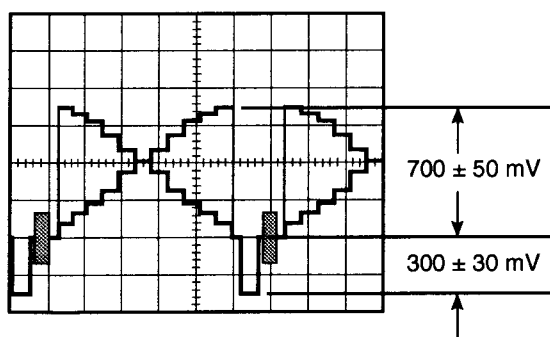

Fig. 5-33
- Confirm that the Video signal becomes 700 ± 50 mV as shown in Fig. 5-33.
- If not, adjust data with the **ARROW** keys so that the Video signal level becomes 700 ± 50 mV as shown in Fig. 5-33.